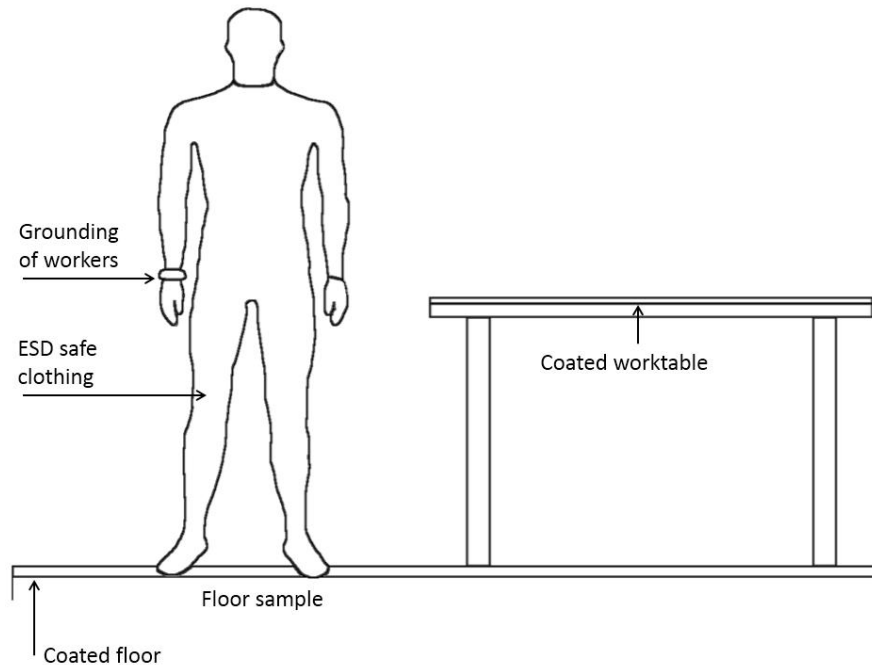

Figure 8 – Protection against ESD in manufacturing environments [source: Philips]
- As shown in Figure 8, workers should be grounded and wear ESD-safe clothing